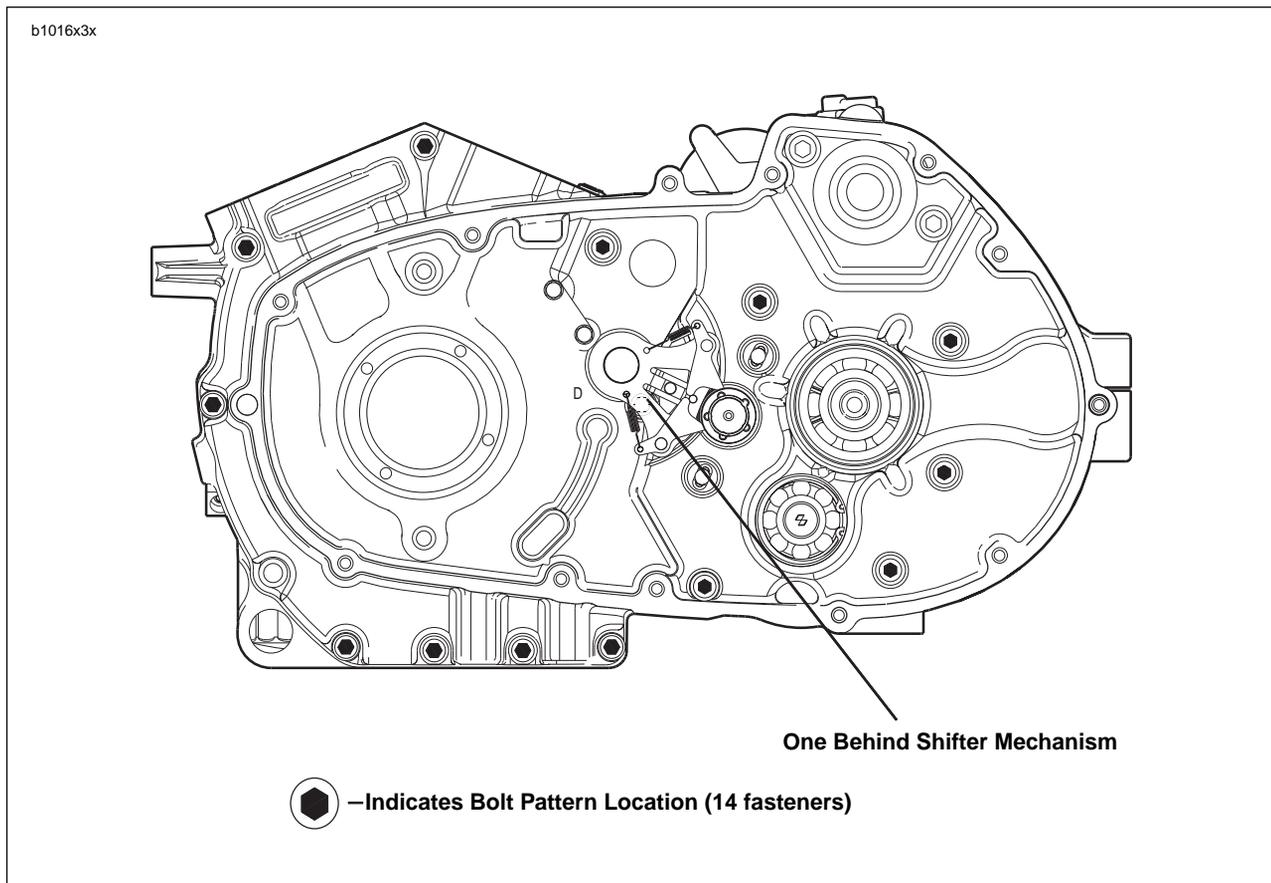

Figure 6-53. Crankcase Fasteners
16. See Figure 6-53. Remove crankcase bolt set (14 fasteners).